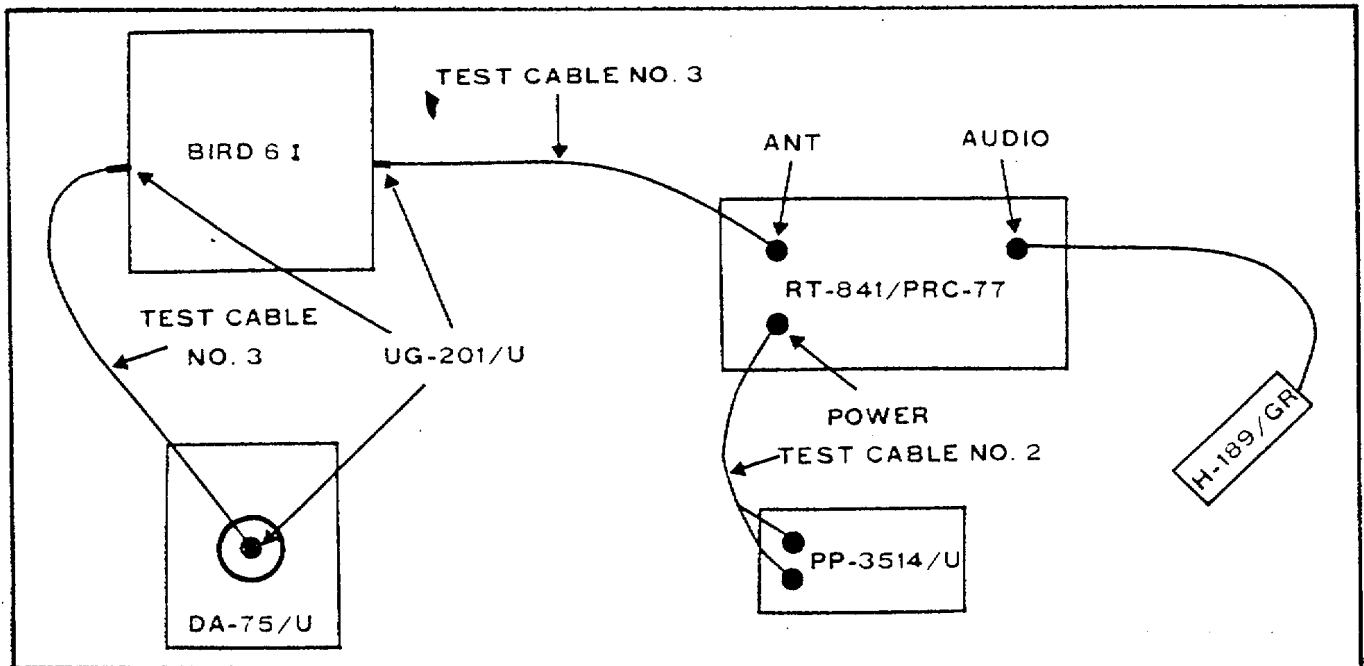

Figure B-12. Transmitter RF Power Output Test.
- (b) Connect the test equipment in accordance with figure B-12.